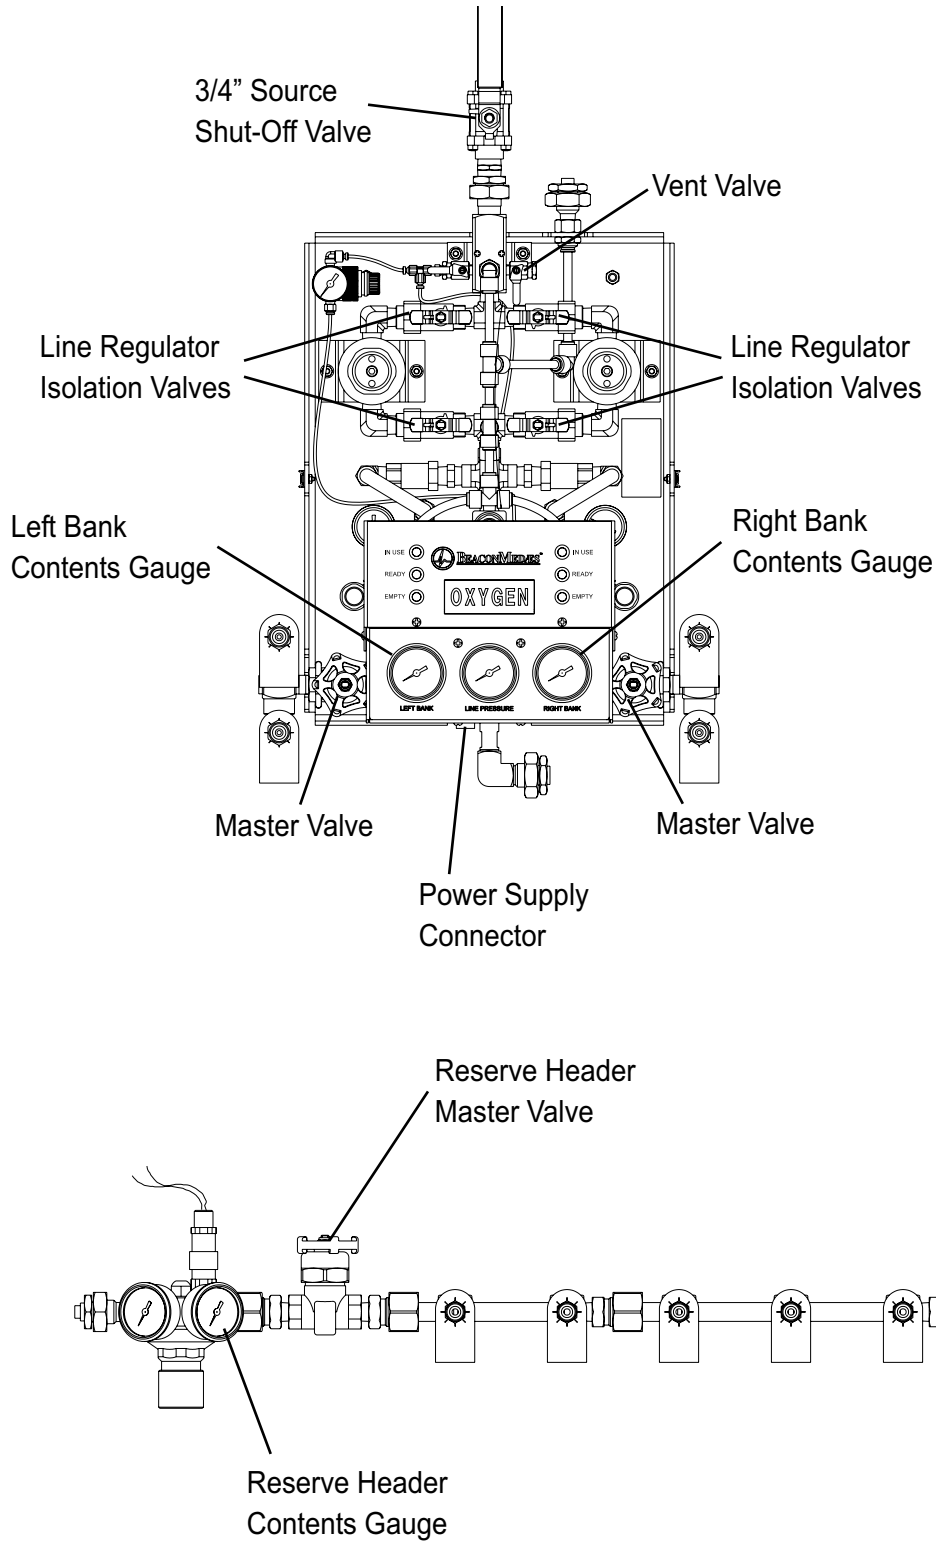

Figure 17
2. Verify following: (Refer to Figures 17 for component location).
10. Close manifold right liquid container. Slightly open vent valve (Figure 17). Verify following:
6. Close two internal isolation valves on INLETS (lower valves) of line regulators. (Refer to Figure 17 for component location).